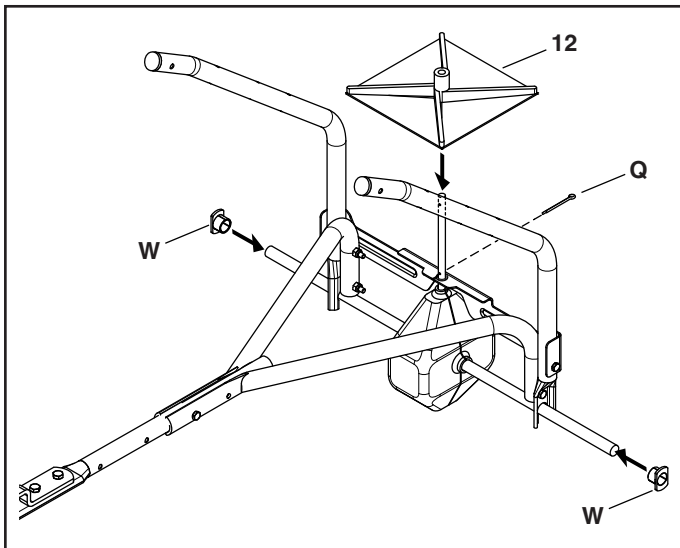

FIGURE 6
STEP 6: (SEE FIGURE 6)
- Slide the flat sided bearings (W) onto the axle and insert them into the ends of the hopper support tubes.
- Slide the spreader impeller (12) onto the spreader shaft and secure it with a 1/8" x 1-1/2" cotter pin (Q).